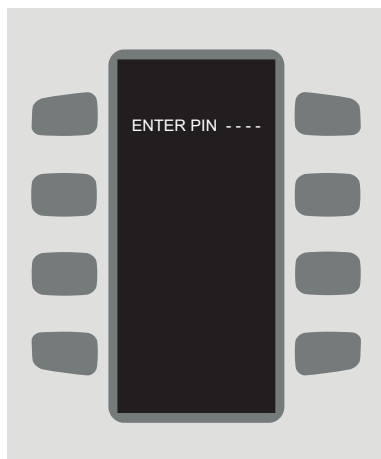

FIGURE 16: Enter PIN Screen
2. Enter the code 8-4-3-3 (T-I-D-E) and press ENTER (Figure 16).